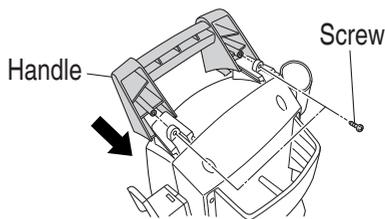

Fig. 3
7. Attaching the handle (Fig. 3)